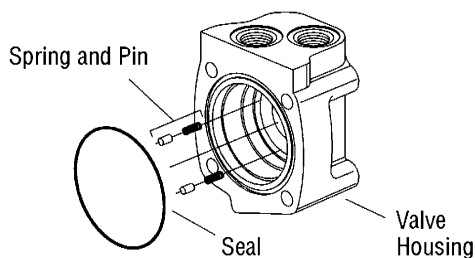

Figure 14
**35** Install 2 springs and 2 pins in the holes located in the bore of the valve housing, as shown in Figure 14.